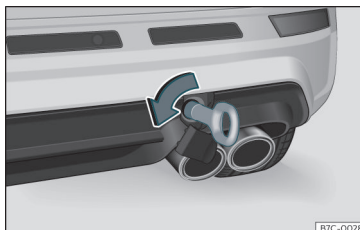

Fig. 87 Right side of the rear bumper: towline anchorage screwed in.
- Screw the towing eye in the housing by turning it to the maximum **anticlockwise** »» Fig. 87 »» ❶. Use a suitable object that can completely and securely tighten the towing eye in its housing.